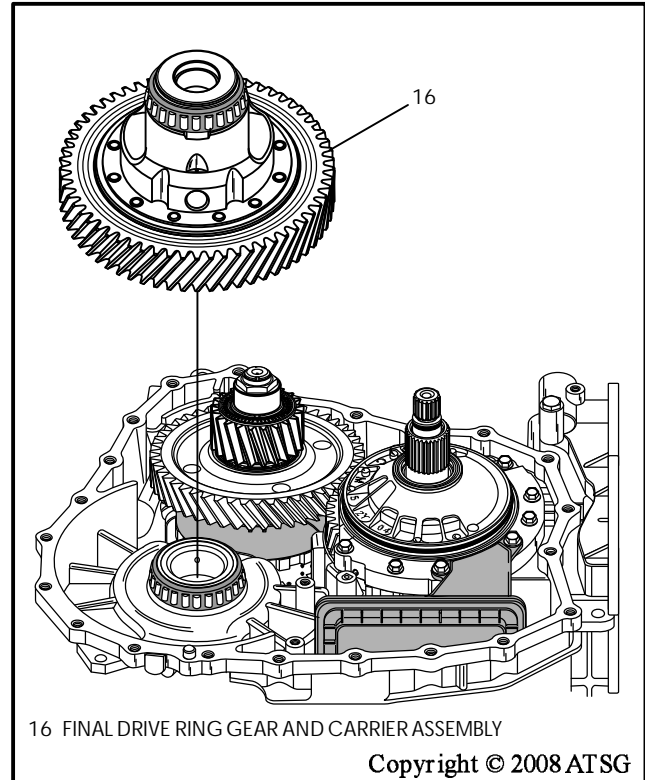

Figure 40
22. Remove the final drive assembly by lifting straight up, as shown in Figure 40.